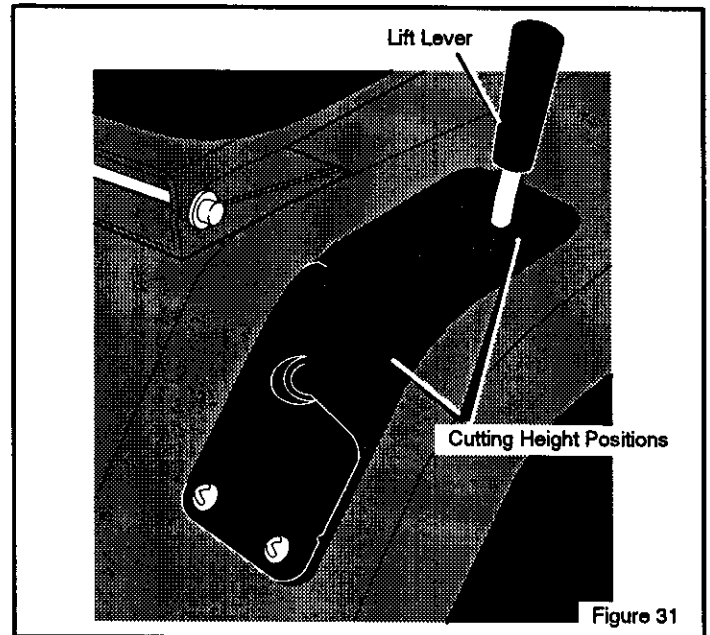

Figure 31
2. Mow a short distance on a flat level area to check the level of cut and the height of cut. Look at the height of cut position number on the lift lever (Figure 31).